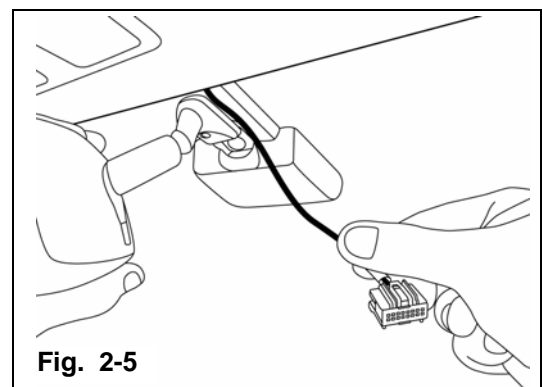

Fig. 2-5
- a) Pull EC mirror harness towards passenger side of vehicle, so it is clear of mirror mounting button. **(Fig. 2-5)**
- b) Hold the mirror head and slide the mount downwards as far as possible over the windshield button, until fully seated. **(Fig. 2-5)**